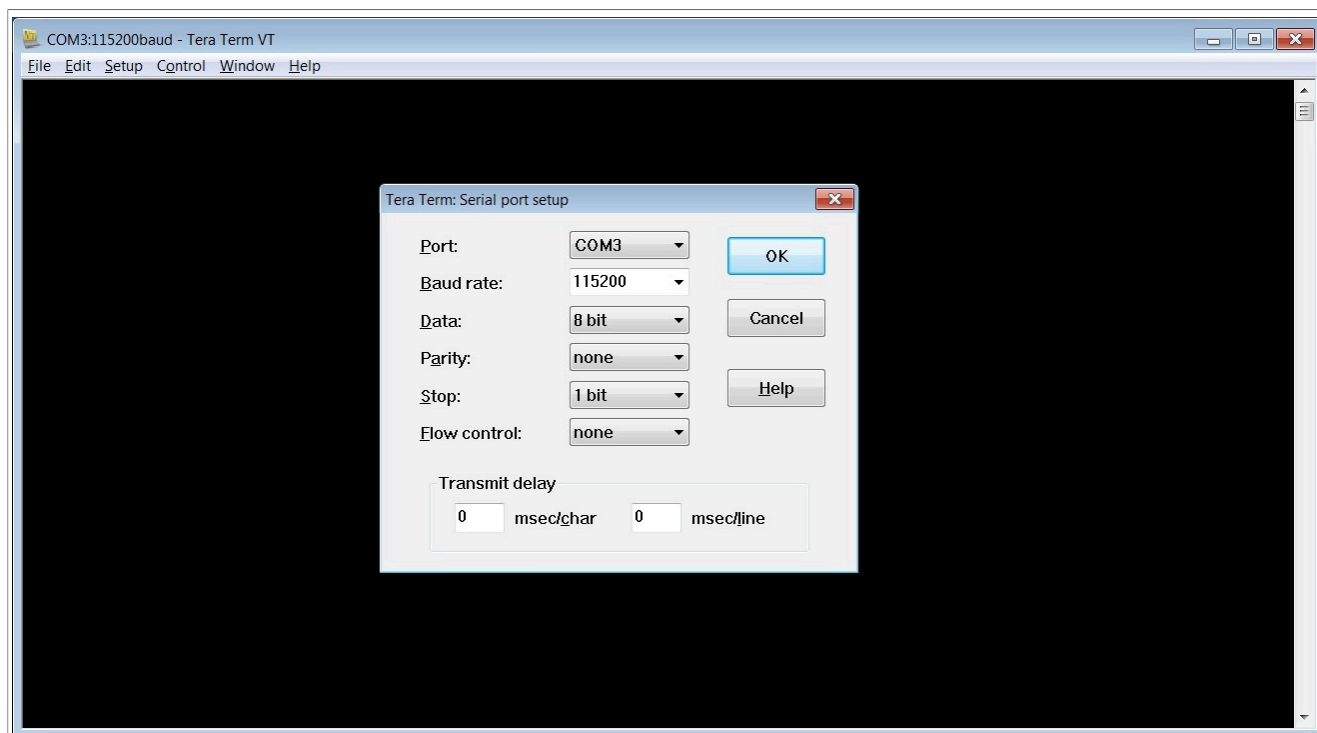

Figure 13. Connecting to the i.MX console via a terminal
5. Install a Terminal emulator on the Laptop for enabling console display of the i.MX boards through the serial/USB ports, as shown in the Figure 13.